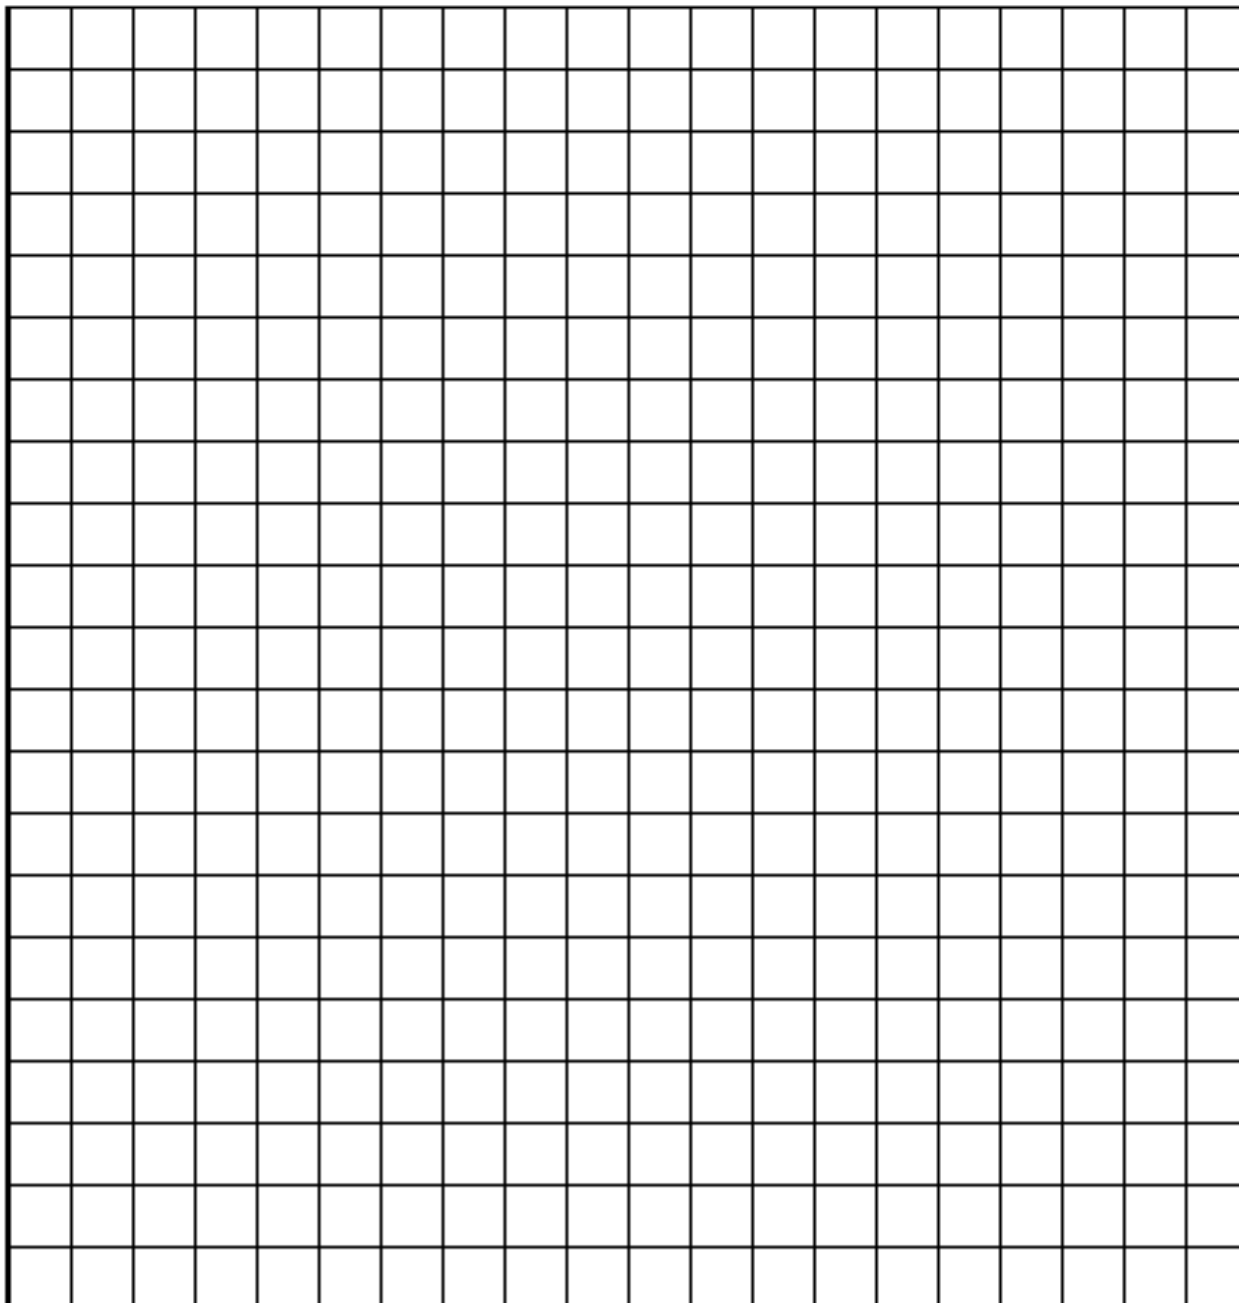

Figure 3. Force versus Vertical Deflection
10. On the provided graph (Figure 3), label the x-axis as "Vertical Deflection (Δx)" and the y-axis as "Force (F)." Plot the deflection as a function of added mass. Refer to the deflection distance using the symbol Δx .